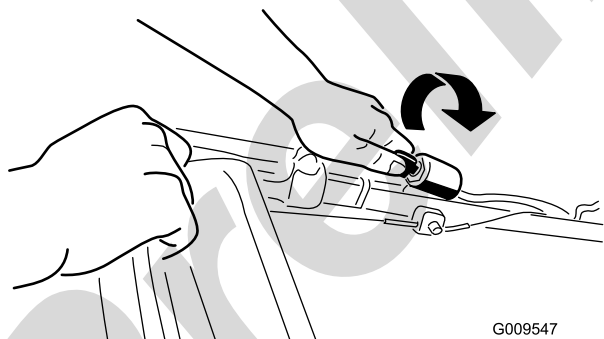
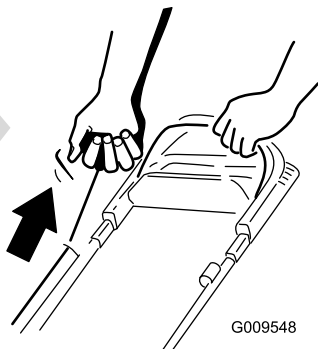

Figure 11
Figure 12
2. Turn the ignition key (Figure 11) (electric-start models only) or pull the recoil-start handle (Figure 12).
Note: When you pull the recoil-start handle, pull it lightly until you feel resistance, then pull it sharply (Figure 12). Allow the rope to return to the handle slowly.